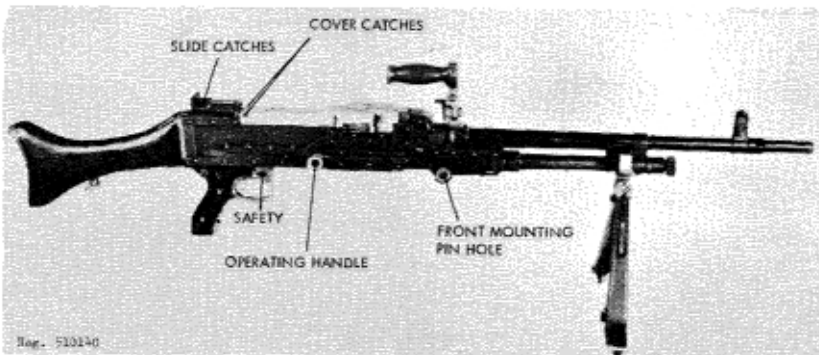
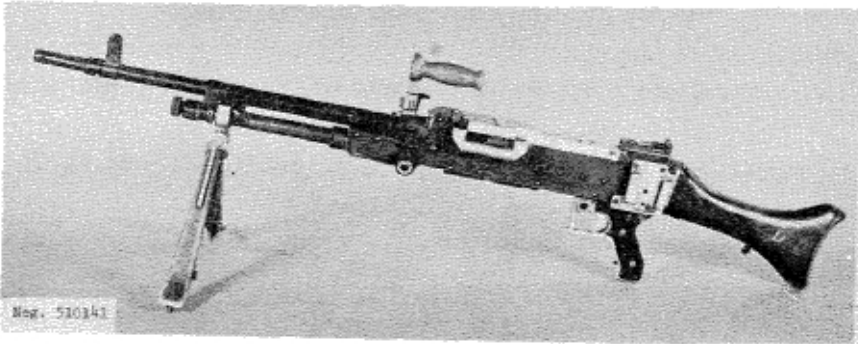
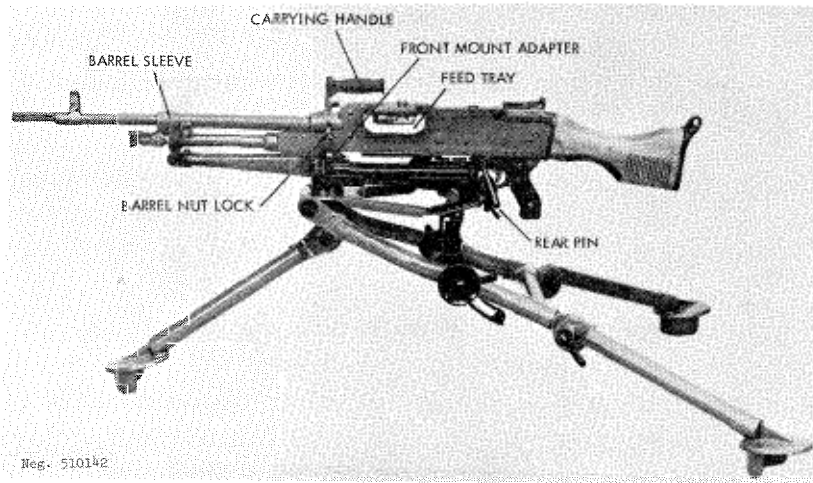
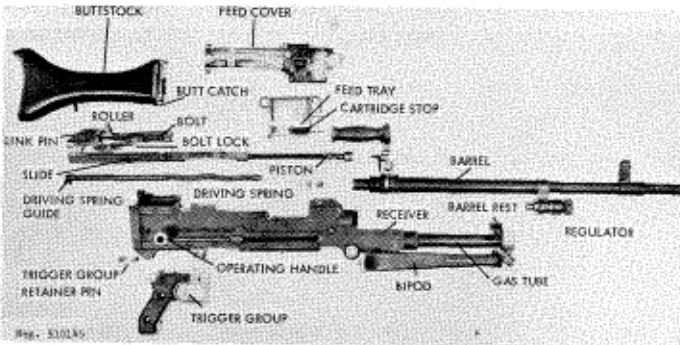

Figure 141. Belgium M.A.G. machinegun.
Figure 142. British L7A1 machinegun.
Figure 143. M.A.G. on tripod mount.
Figure 146. M.A.G. disassembled.
a. The M.A.G. machinegun (fig 141) was developed in Belgium by the F.N. organization in 1958; M.A.G. stands for *Mitrailleuse a Gaz* or gas-operated machinegun. The M.A.G. is used not only by the Belgian Army, but also by British, Swedish, Israeli, and several other armies. The British guns (fig 142) are known as Machinegun 7.62-mm L7A1 (or L7A2) and are so marked on the left side of the receiver. The Swedish gun is the *Kulspruta 58*, and the other countries usually refer to these guns by the manufacturer's designation: M.A.G. 58.
b. The M.A.G. is an air-cooled, gas-operated belt-fed general purpose machinegun. It is normally fired from its bipod, but it can also be mounted on and fired from a light tripod (figs 143 and 144). The barrel is of the quick change type. Special versions without butt stocks or bipods are available for use in armored vehicles. An accessory butt stock and bipod is carried in the vehicle for use when the gun must be dismounted for emergency ground use.
b. Open the bipod by pressing in the bipod retainers (located on the receiver between the bipod feed), and at the same time, squeeze the bipod legs together to disengage them from the receiver. When the legs are free, swing them to open. To install the gun on a tripod mount, align the front mounting pin hole of the gun (fig 141) with the front adapter (fig 143) and install the front pin. Lower the receiver down onto the rear mount adapter and insert the rear pin. Refer to paragraph 199 for additional information on tripod mounts.
c. Pull the operating handle (fig 141) fully rearward and then thrust it fully forward. Press the safety (fig 141) to the right (to safe "S"). Press the cover catches (fig 141) and open the cover. Place a loaded ammunition belt on the feed tray, open side of the link down, and first cartridge resting against the cartridge stop (fig 141). Close the cover. CAUTION: The gun is now loaded and ready to fire.
d. Lift the rear slight leaf. Press the slide catches (fig 141) and move the slide along the leaf until the top of the slide aligns with the numeral that corresponds to the range in hundreds of meters. The battle sight, visible when the leaf is folded, is for ranges up to 200 meters.
f. When the barrel becomes hot from firing, it should be changed. Press the barrel nut lock (fig 143) and, while holding it in, rotate the carrying handle to its vertical position. (This action rotates the barrel nut and unlocks the barrel.) Pull the barrel forward, out of the gun. Place a cool barrel on the rest at the front of the gas tube (fig 146). Align the rear end of the barrel with its hole in the receiver and seat the barrel. Rotate the barrel handle down to the right until the barrel nut lock clicks into place.
h. The gas regulator should be set so that the figure "1" is just visible under the left side of the sleeve around the barrel (fig 143). This gives a normal firing rate of approximately 650 rounds per minute. If a maximum rate of fire is desired, rotate the regulator until it is fully closed against its stop. Use settings "2" or "3" when the gun starts to malfunction due to fouling. Under very adverse conditions, close the regulator fully.
a. Clear the gun (para 196i). Remove the barrel (para 196f). Press the cover catches (fig 141) and open the cover. Depress the butt catch (fig 146) and slide the butt upward until it is removed.
b. Press the end of the driving spring guide (fig 146) forward, then upward, and ease it to the rear. Remove the driving spring. Hold a hand behind the receiver rear opening and pull the operating handle (fig 141) sharply rearward. The bolt and operating slide will come out of the rear of the receiver and can be removed. Push out the link pin (fig 146) and separate the bolt from the slide.
d. Align the holes in the link and slide and insert the link pin. Start the piston into the receiver. Press the bolt lock (fig 146) against the bolt and pull the bolt as far forward as possible from the slide. Align the bolt up with its guides and push the entire bolt and slide forward. Insert the driving spring into the slide, press the trigger, and use the spring to push the slide (and bolt) fully forward. Press the driving rod forward, against spring pressure, until it can be seated in the slot in the bottom of the receiver.
c. For the M.A.G. tripod, remove the rear pin (fig 143) from its hole, then place the gun on the mount with the gun mount bosses engaged with the shoulders on the front of the front mount adaptor (fig 143). Align the rear pin holes in the receiver with the holes in the mount and insert the rear pin (fig 143). Reverse this procedure to remove the gun. To traverse the gun, loosen the traverse clamp. Tighten this clamp before firing. Fine traverse adjustments are made after tightening the traverse clamp by rotating the fine traverse knob. To elevate the gun, release the clamp on the elevating knob and rotate the knob to elevate or depress the gun. Relock the clamp before firing.
B. THE 7.62-MM AND .303 (7.7-MM) BREN LIGHT MACHINEGUNS (UK)